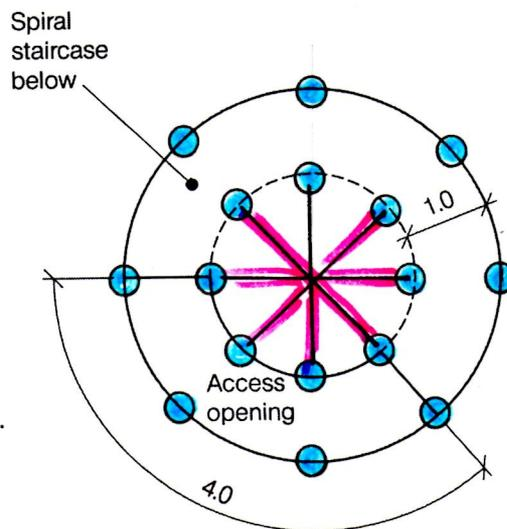

FIGURE 1c.
- to stabilise the tower with a series of braced cantilevers running diagonally across the inner circular space, see Figure 1c.